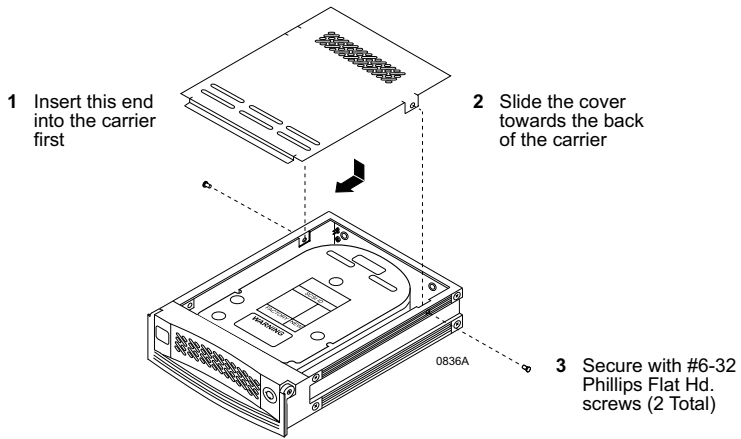

Figure 7: Drive Cover Installation
3. Install the provided drive cover (Figure 7).